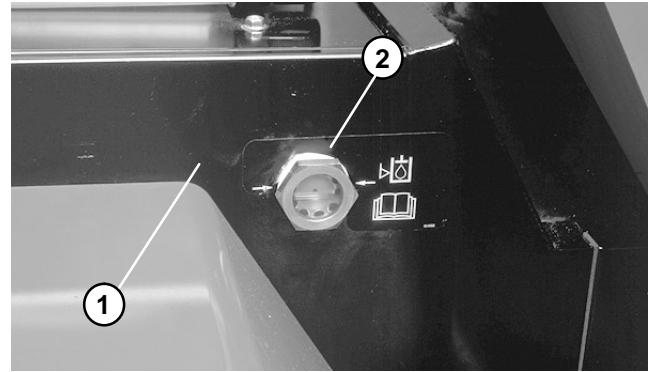
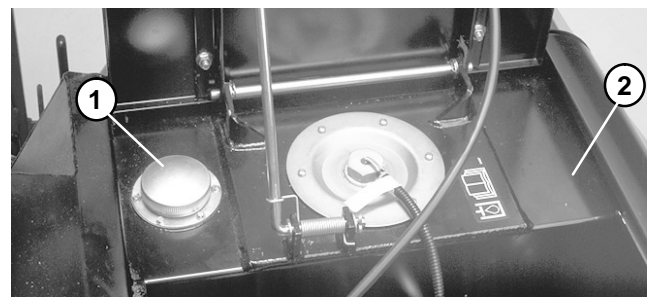

Figure 51
Figure 52
Capacity of the hydraulic reservoir is approximately 9.3 gal. (35.2 L). With machine on a level surface, hydraulic oil level should be 1/4 to 1/2 inch below arrows on sight glass, when oil is cold. Warm oil should be even with arrows on sight glass. If level is low, add hydraulic oil. Refer to Hydraulic Oil Specifications (Fig. 51).
2. Clean around reservoir filler cap (Fig. 52). Remove cover and add hydraulic oil until it is even with arrows on sight glass (Fig. 51).